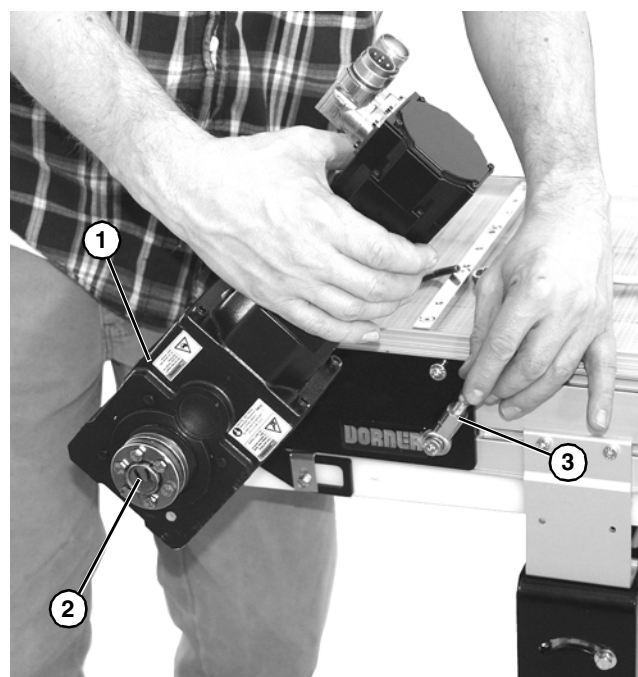

Figure 16
4. Attach servo assembly (Figure 16, item 1) onto shaft (Figure 16, item 2).
5. Raise servo motor and rotate anti-rotation adjustable rod (Figure 16, item 3) fully upward, and then lower servo assembly.